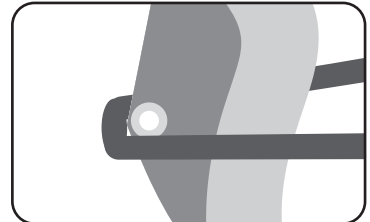

Fig. 4: Outhaul sail to the end of the boom
- d) Outhaul your sail to the end of the boom (fig. 4).